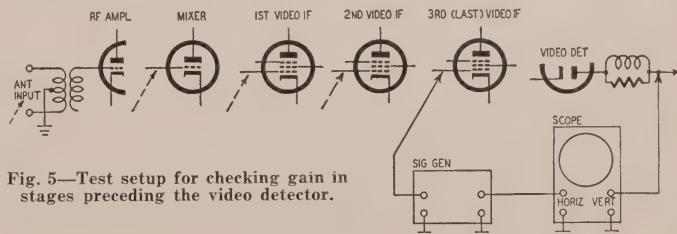

Fig. 5—Test setup for checking gain in stages preceding the video detector.
3. Gain checks with a sweep signal generator and oscilloscope When a fault is located to the video section before the video detector, it can be further localized by gain checks with a sweep generator and oscilloscope. Turn set to a blank channel and disconnect the antenna lead-in from the antenna terminals. The scope is left at the detector load throughout the series of checks (Fig. 5).